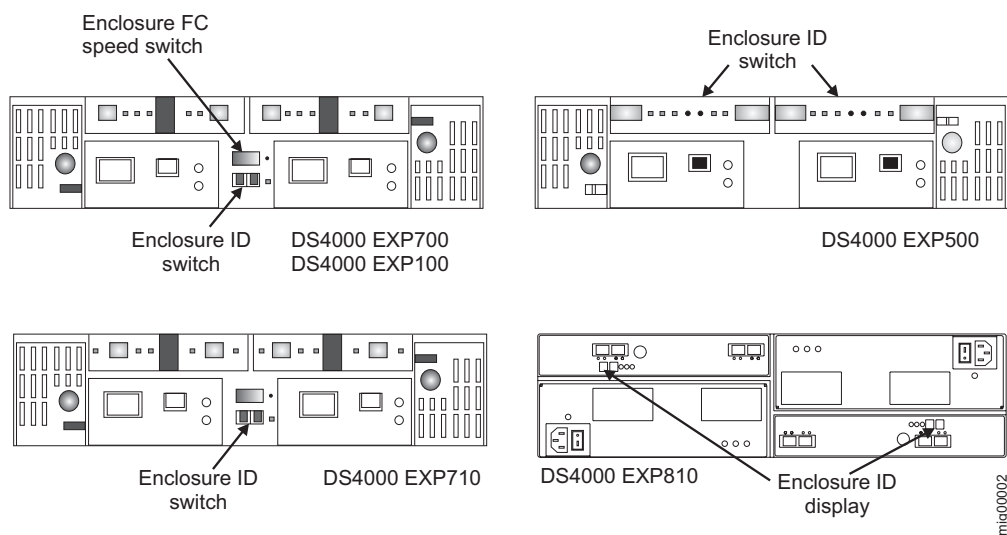

Figure 25. EXP100, EXP500, EXP700, EXP710, and EXP420/EXP810 enclosure ID and speed switches
In an EXP500 storage expansion enclosure, there is an enclosure ID switch mounted on each of two ESM canisters. Set each ESM canister's enclosure ID switch in the EXP500 drive enclosure to the same unique number of that in the drive loop. In EXP100, EXP700, and EXP710 storage expansion enclosures, there is only one enclosure ID switch, which is mounted between the power supplies. The EXP420/EXP810 does not have a physical switch setting for the enclosure ID; instead, it has a display that shows its enclosure ID. The controller firmware automatically sets the enclosure ID; however, you can change the enclosure ID by using the DS4000 Storage Manager Client program. For additional information, see the appropriate *DS4000 Installation, User's, and Maintenance Guide* for the particular storage expansion enclosure. Figure 25 illustrates the location of enclosure ID switches on the EXP100, EXP500, EXP700, EXP710, and EXP420/EXP810 storage enclosures.
- ___ Step 2. See Figure 25 on page 78 for an illustration of how to set the enclosure ID of the storage expansion enclosures. Each enclosure (including the DS4000 Storage Subsystem with internal drive slots) in the DS4000 Storage Subsystem configuration must have a unique enclosure ID. In addition, enclosures (including the DS4000 Storage Subsystem with internal drive slots) that are connected together in the same redundant drive loop/channel pair must have unique single enclosure ID digits (x1s). For example, 01, 02, 03, 04, or 11, 12, 13, 14, are the correct enclosure IDs of the enclosures, including the DS4000 subsystems with internal drives that are connected together in a drive loop/channel. Whereas 01, 11, 21, 31, or 11, 11, 22, 33, are not the correct enclosure IDs of the enclosures that are connected together in a drive loop/channel pair (including the DS4000 subsystems with internal drives) because the single digits within each enclosure ID are not unique (01, 11, 21, 31) or the enclosure ID itself is not unique (11, 11, 22, 33).